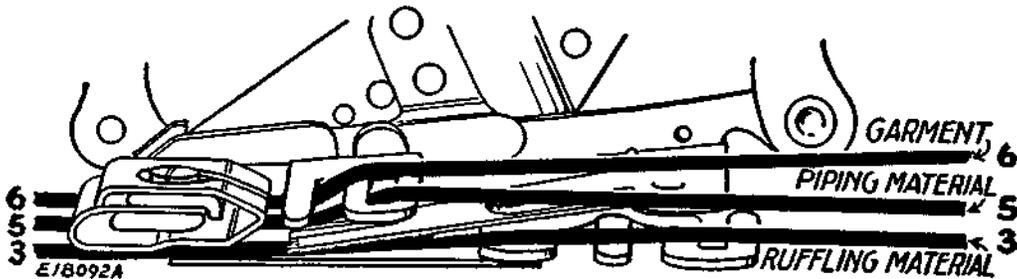

FIG. 67. CORRECT POSITIONS FOR THE MATERIALS
- (1) Insert the material to be ruffled between the two blue blades **Line 3, Fig. 67**. This material must not exceed $1\frac{1}{4}$ inches in width.
- (2) The piping material is usually cut on the bias and it should be about $\frac{1}{4}$ inch wide when folded in the center. Place the piping material in the ruffler, following **Line 5, Fig. 67** with the folded edge of the piping to the right.
- (3) Fold the edge of the material to which the piping and ruffling are to be attached and insert it in the ruffler, following **Line 6, Fig. 67**.